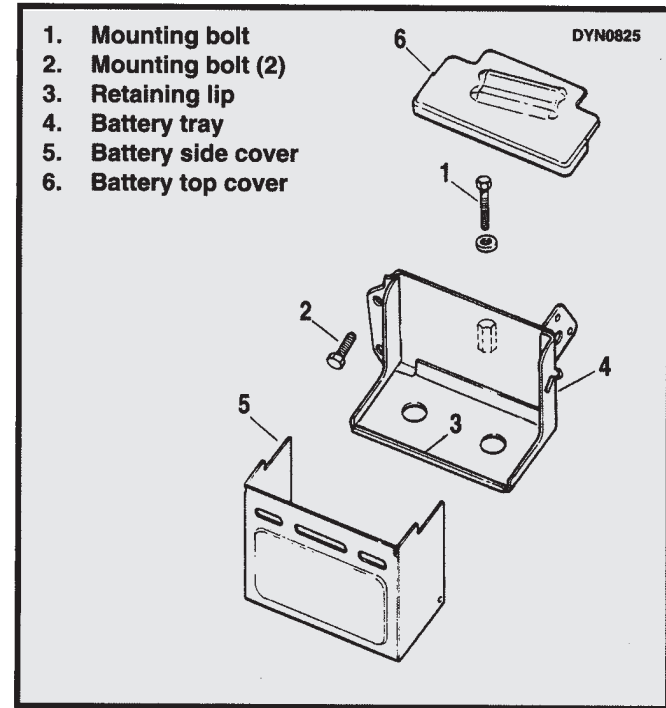

Figure 49. Dyna Glide Battery Tray and Mounting Hardware
Dyna Glide Battery Cover Removal (Figure 49)
2. See Figure 49. Loosen two rear mounting bolts (2) of battery tray (4) (between battery and rear fender).
4. Loosen inboard mounting bolt (1) of battery tray, between battery and frame backbone, just enough to remove battery top cover (6) and side cover (5).
Battery Cover Installation (Figure 49)